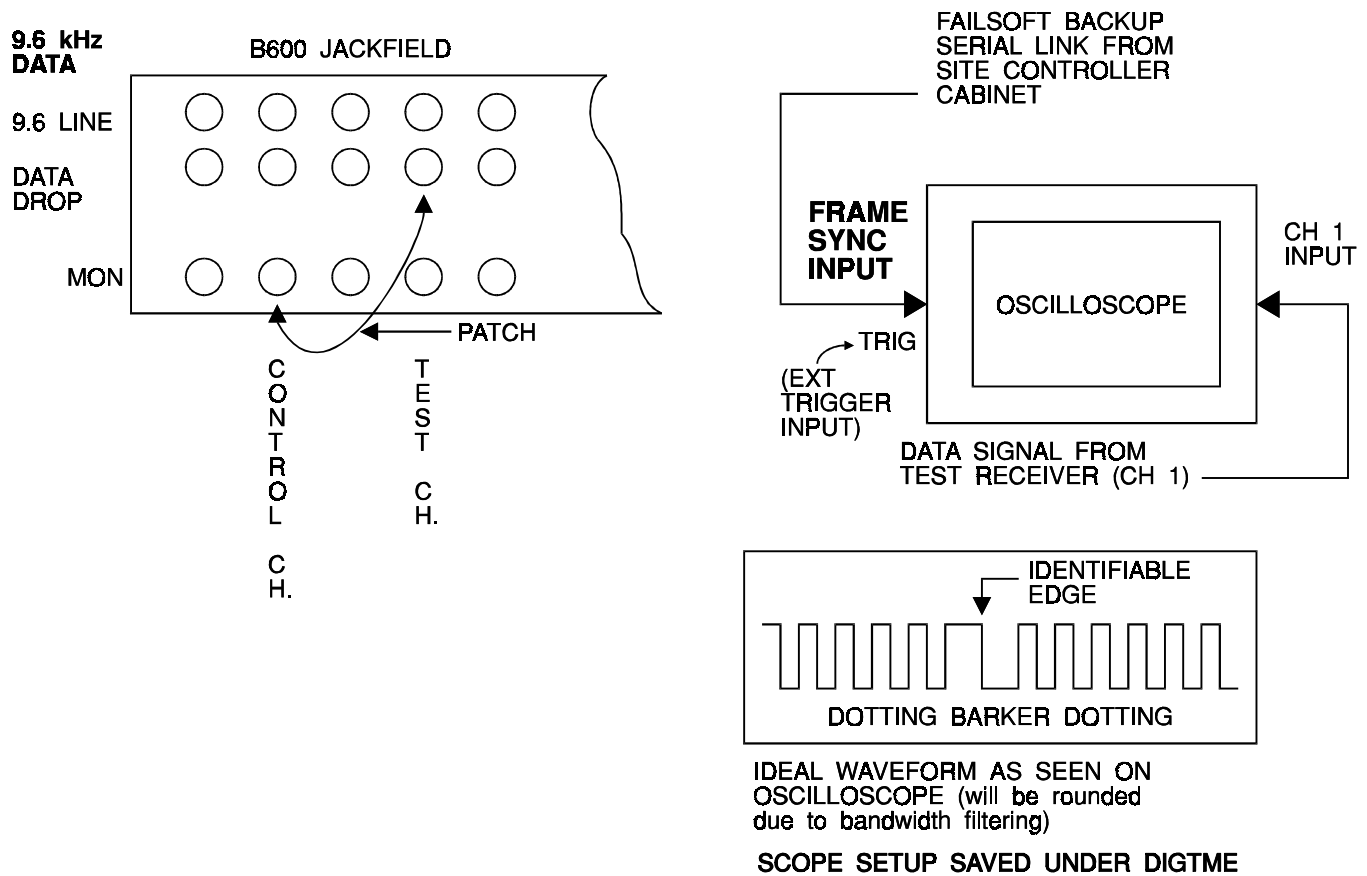

Figure 3 - Digital Delay Adjustment
PTT (See Figure 3 for "dotting/barker" region and oscilloscope connections. The scope setup may be stored under "DIGTME").
Perform the steps in the order presented. Refer to the Figure 3 and Delay Unit Shelf Assembly Maintenance Manual LBI-38941.
- Connect the test equipment as shown in Figure 3. Patch data from Control Channel to the Test Channel.